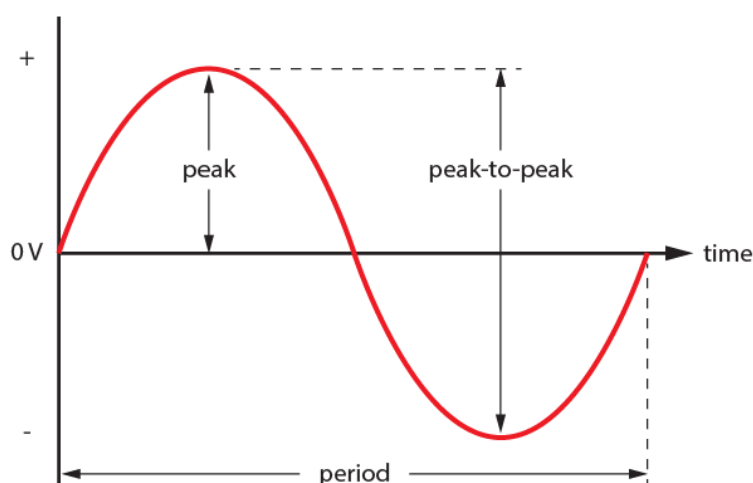

Figure 1
- Once the waveform is correctly displayed, its peak-to-peak voltage and its period and frequency can be determined. Figure 1 shows a sine wave and the measurement points required.